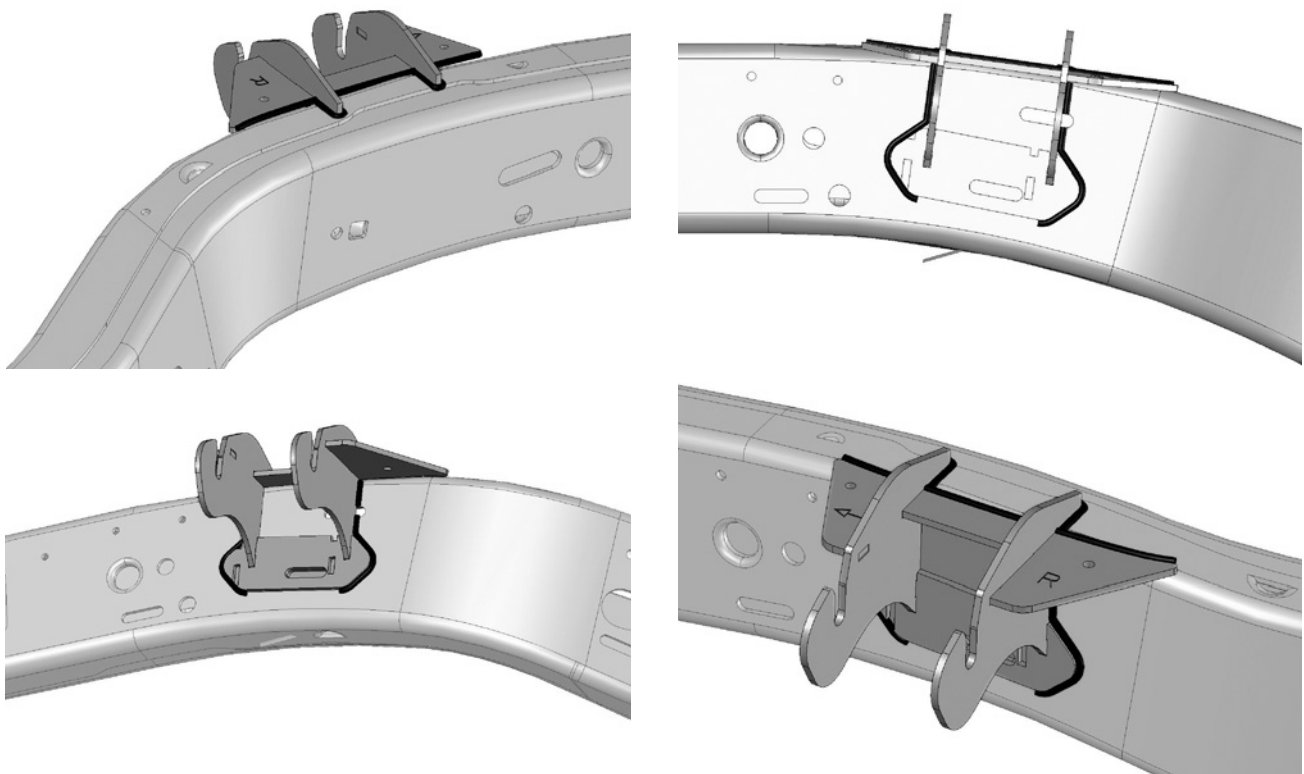

Fig. 1
2. Place the mounts on the frame rail and line up the oval holes precisely. Tack in place and finish weld as shown in Figure 1.